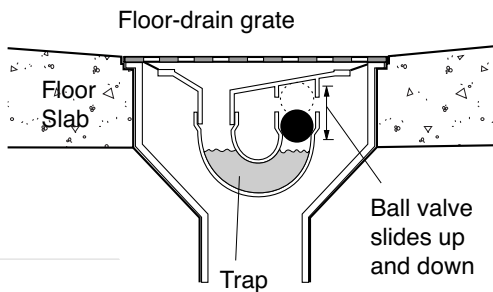

FIGURE 4
- ◆ Use self-sealing floor traps (see Figure 4). This is especially important if the weeping tiles connect to the floor drain above the trap.